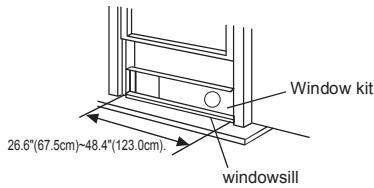

Fig.9
2. Attach the window slider kit to the windowsill. Adjust the length of the window slider kit according to the width of window, shorten the adjustable window kit if the width of window is less than 26.6 inches. Open the window sash and place the window slider kit on the windowsill. Fig.9.